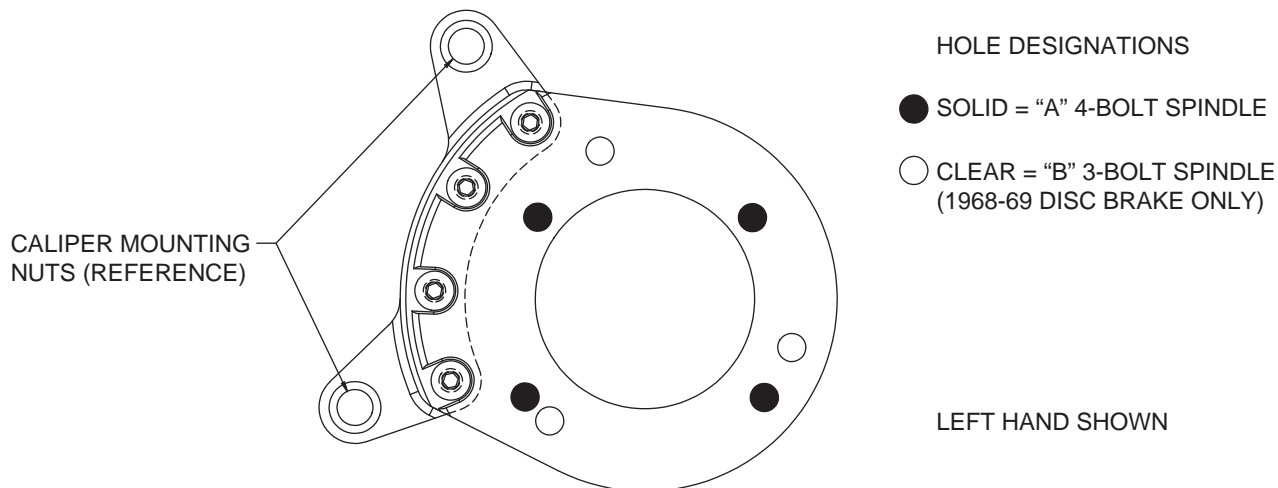
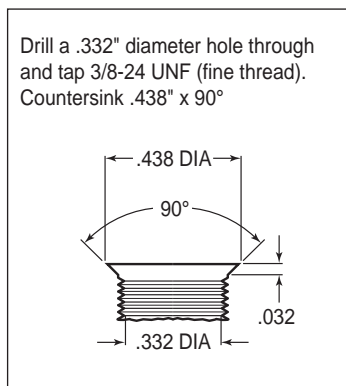
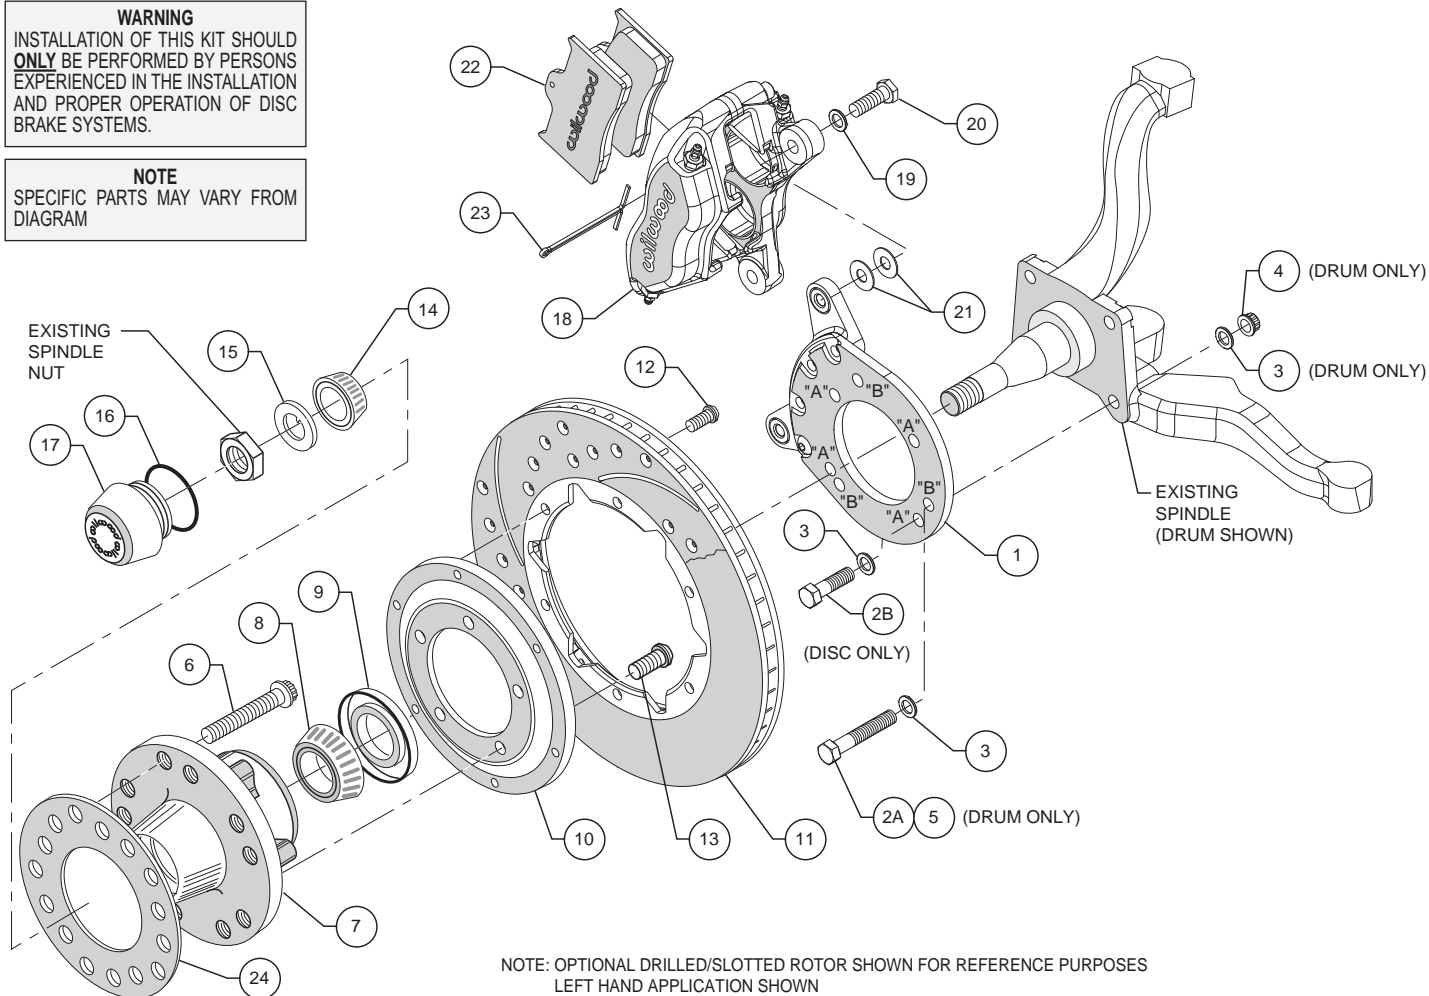

Figure 1. Wilwood Caliper Mounting Bracket
Figure 2. Drill and Tap Detail
Figure 4. Typical Installation Configuration
This kit has been designed for use with both the disc brake or the drum brake configuration of vehicle. The only difference is in how the Wilwood caliper mounting bracket is installed. The same bracket is used for both configurations; the disc brake version utilizes three mounting holes while the drum brake application uses four mounting holes (see Figure 1). For your convenience we have supplied bolt kits for both applications (see parts list and Figure 4 as necessary). Use the bolt kit that is applicable to your vehicle and disregard the other one.
Using the caliper mounting bracket as a template (refer to Figure 1 as necessary), locate and verify the three original holes on the spindle that need to be modified. Drill a .332" diameter hole through all three holes, then tap 3/8-24 UNF (fine thread). Countersink the holes to .438" diameter x 90°, as shown in Figure 2.
**Assembly Instructions** (numbers in parenthesis refer to the parts list, and Figure 2 on the preceding pages): **CAUTION:** All mounting bolts must fully engage clinch nuts. Be sure to check that all bolts are either flush or protruding through flanged side of clinch nut after shimming, Figure 5.
•**NOTE:** This kit uses the same mounting bracket (1) for both the drum and disc brake spindles. The drum version, Photo 1, uses four mounting bolts (designated "A"), while the disc version, Photo 2, uses three (designated "B"). Refer to Figures 1 and 2 for the basic installation position of the bracket and the "A" and "B" reference designations (not physically marked on the brackets).
**For Drum Spindle:** Align bracket, using the four "A" holes, to the face of the spindle and attach using bolts (2A and 5), washers (3), and lock nuts (4), as shown in Figure 2. Ensure that the flanged heads of the clinch nuts in the bracket are facing outboard, Photo 1. Torque nuts to 30 ft-lb.
**For Disc Spindle:** Align bracket, using the three “B” holes, to the face of the spindle and attach using bolts (2B) and washers (3), as shown in Figure 2. Finger tighten. Ensure that the flanged heads of the clinch nuts in the bracket are facing outboard, photo 2. Remove bolts one at a time, apply red *Loctite*® 271 to threads, and torque to 40 ft-lb.
- Orient the rotor (11) and the rotor adapter (10) as shown in Figure 2 and Photo 5. Attach the rotor to the adapter using bolts (12). Using an alternating sequence, apply red *Loctite*® 271 to the threads, and torque to 25 ft-lb.
- Mount the adapter/rotor assembly (10/11) to the hub (7) using bolts (13), as shown in Figure 2 and Photo 6. Using an alternating sequence, apply red *Loctite*® 271 to the threads, and torque to 45 ft-lb.
- Pack the small outer bearing cone (14) with high temperature disc brake bearing grease and install into hub (7). Slide the hub/rotor assembly onto the spindle. Secure using spindle washer (15) and OEM spindle nut, Photo 7. Adjust bearings per OEM specifications. Install saved OEM nut lock (if any) and a new cotter pin (not included).
- Screw dust cap (17) into hub (7), Photo 8. Friction created by the o-ring (16) on the dust cap keeps it from unscrewing. **NOTE:** The O.D. of the existing OEM spindle washer may be larger than the I.D. of the dust cap not allowing it to seat against the hub face. Therefore, use the spindle washer (15) supplied with the kit instead of the OEM washer.
- NOTE:** Please reference the caution statement at the beginning of the assembly instructions. Mount the caliper (18) onto the caliper mounting bracket (1) using bolts (20) and washers (19), as shown in Figure 2. Initially place two .035” thick shims (21) on each bolt between the caliper and the bracket, Photo 9. Temporarily tighten the mounting bolts and view the rotor (11) through the top opening of the caliper. The rotor should be centered in the caliper, Photo 10. If not, adjust by adding or subtracting shims between the bracket and the caliper. Always use the same amount of shims on each of the two mounting bolts. **NOTE:** The end of each bolt must be flush with or slightly protruding from the head of the clinch nut, as shown in Figure 5. If necessary place spare shims between washer (19) and caliper